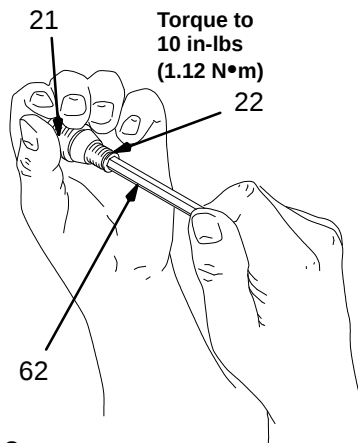

Fig 18
2. Using the 8 mm hex key (62) supplied, unscrew and remove the resistor stud (22). See Fig 18.